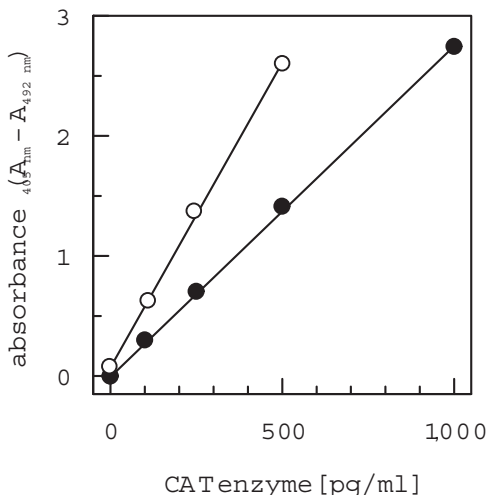

Fig. 1: A typical calibration curve using ABTS peroxidase substrate with (O) or without (●) substrate enhancer.
- Upon completion of the experimental procedure, calculate the exact CAT concentration (ng/ml) of the calibration standards. Plot the absorbance values obtained on the y-axis against the lot specific standard concentrations on the x-axis. This results in a linear calibration curve (for an example, see figure 1).
- ③ A separate calibration curve must be established for each series. We recommend that one experimental series be performed on one microplate. When more than one microplate is used in one series, a calibration must be carried out on each plate.